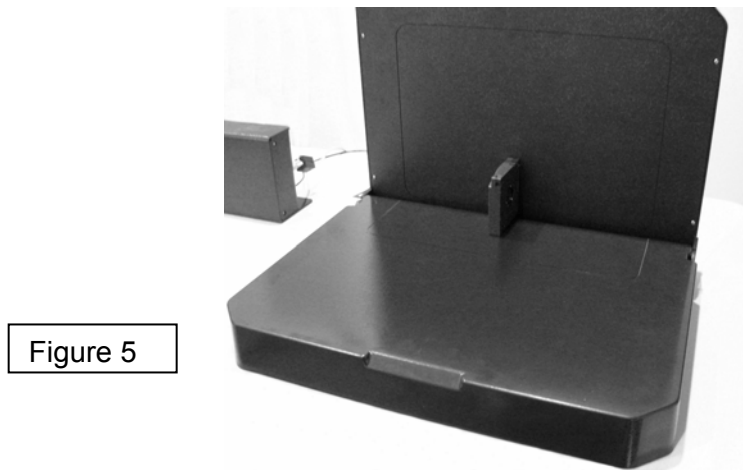

Figure 5
- The face of the label is parallel to the antenna pad—the label should be centered within the molded case outline (Figure 5).
- Open the antenna pad to the vertical position and place the case within the molded case outline. See Figure 5.